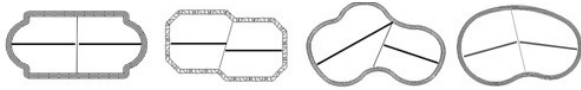

Fig 1 - Split Cover Examples
- 5. DETERMINE SPLIT:** Picture the pool as two independent shapes divided at the middle or bottleneck. Neither the LENGTH nor the WIDTH of a section can exceed 20ft (max 20x20ft). Each section will have a roller attached to the underside spanning the middle as in Fig 1. Carefully determine roller placement at the widest midway point across each section. **NOTE:** Always find the outside of a curve to crank from or cover will wrap over the crank as you roll the cover. Rollers also must be at right angles (90°) to the edge of the cover (and deck) as in Fig 1 or cover will spiral over the crank when rolling. Like folding a sheet, match the ends of folded cover to ensure fold is in the middle.